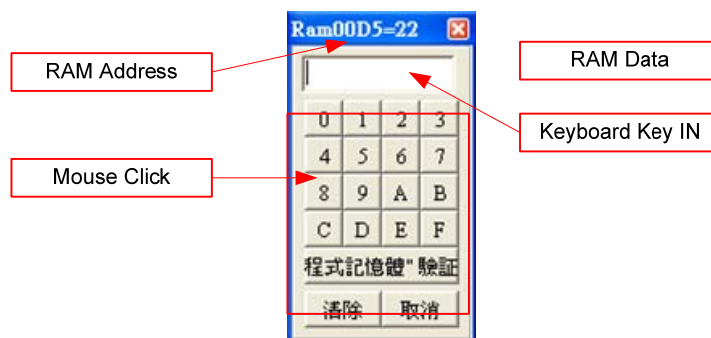

Figure 3-6
2. Point the cursor to the selected revised lines, double click the mouse's left key, a window will pop up as Figure 3-6 shown. Users can key in on keyboard or press the button by mouse.